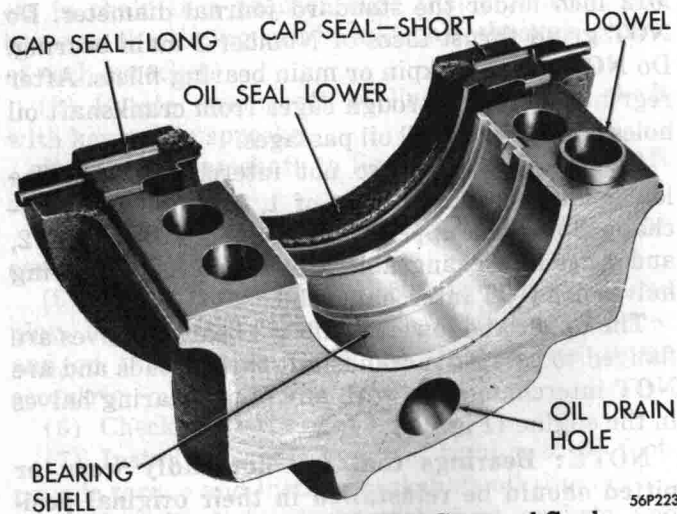

Fig. 12—Rear Main Bearing Cap and Seals
(8) Check crankshaft end play to .002-.007 inch. If end play is less than .002" or more than .007", install a new Number 3 main bearing.
(9) Fit the remaining bearings in same manner.
(10) Install new rear main bearing oil seal in the cap with Tool C-3511.
(11) Hold seal in place with tool and trim ends of seal flush with cap.
(12) Install bearing shell and cap seals (Fig. 12).